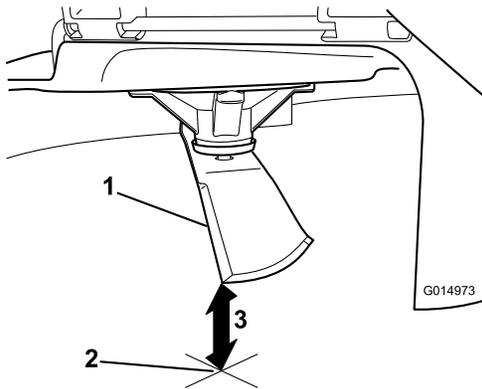

**Figure 92**
3. Measured distance between blade and the surface (A)
4. Rotate the same blade 180 degrees so that the opposing cutting edge is now in the same position (Figure 92).